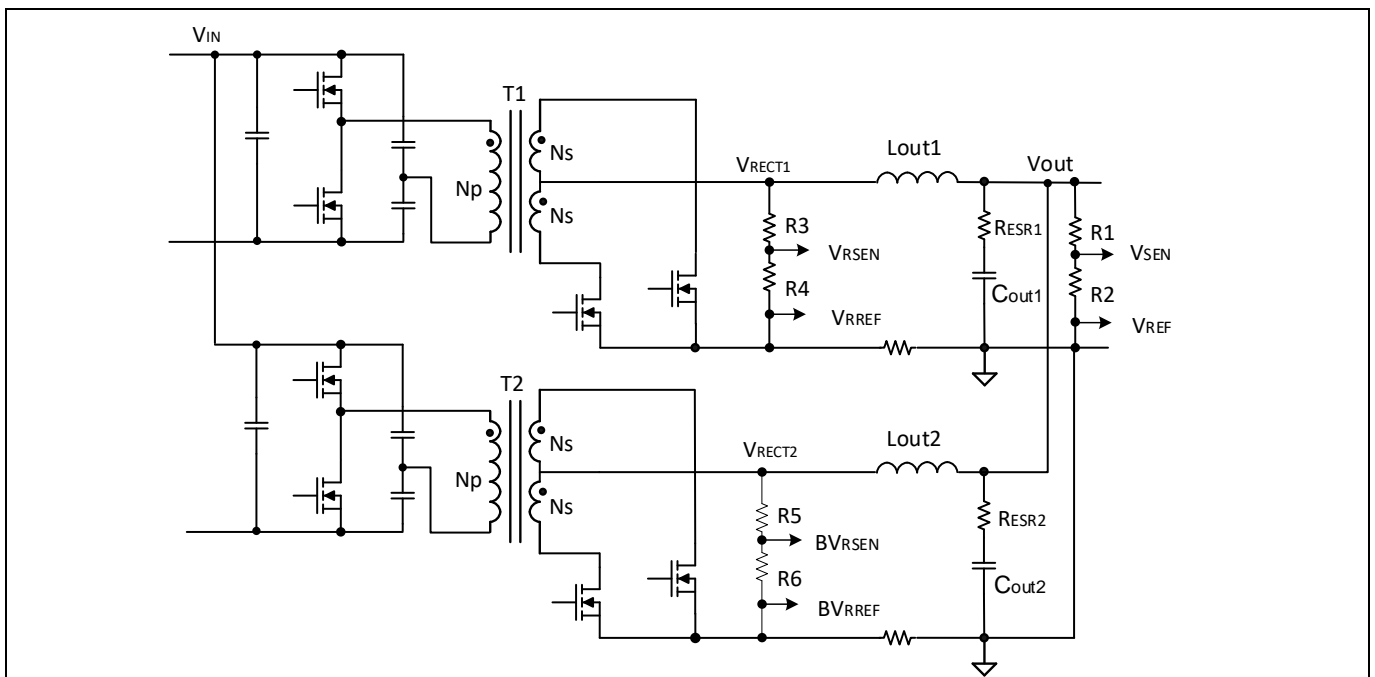

Figure 4 Voltage sensing of interleaved converter
In an interleaved application, sensing the input voltage of the V_{RECT} of the second phase provides more sample data and offers quicker line-transient response. **Figure 4** shows an example of an interleaved half-bridge (HB) converter.